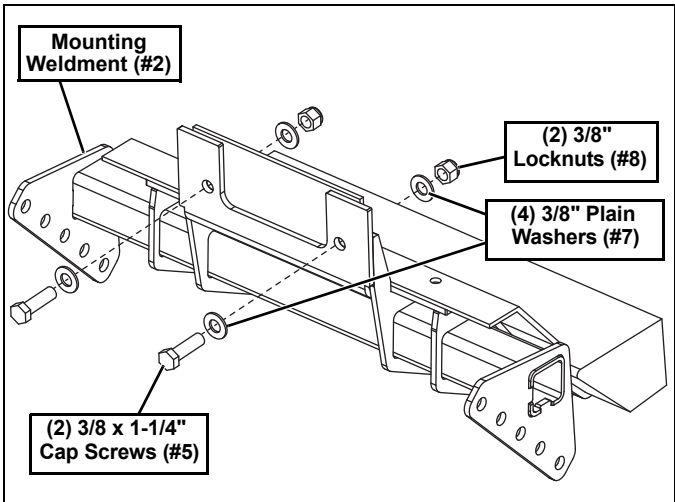

Figure 4
5. Place the Mounting Weldment (#2) against the frame and line up all holes. If equipped with a winch, also slide the top end of the Mounting Weldment (#2) behind the fairlead. (See Figure 4.)
6. Insert (2) 3/8"-16 x 1-1/4" Cap Screws (#5) through (2) 3/8" Plain Washers (#7), the top holes of the Mounting Weldment (#2), and into the vehicle frame. Insert the hardware through the Fairlead first if equipped with a winch. Then, secure with (2) 3/8" Plain Washers (#7) and (2) 3/8"-16 Locknuts (#8). (See Figure 4.)